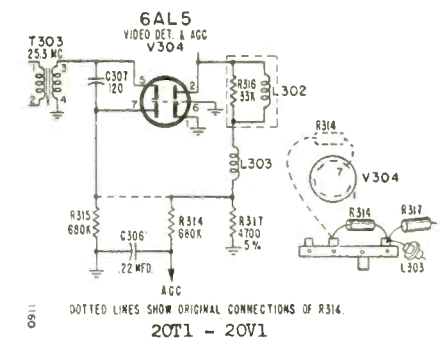

Fig. 4. Changes in 20T1, etc. chassis
3. Connect R_{314} as shown in Fig. 4